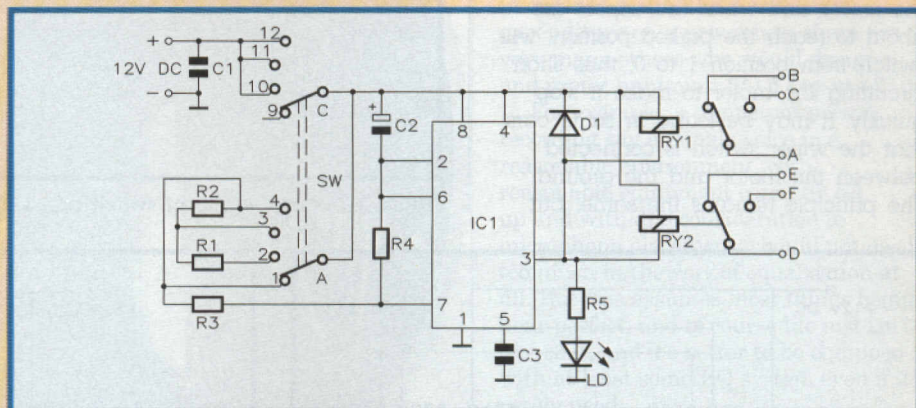

Figure 2. Circuit diagram of the Intermittent Wiper Controller.
Referring to Figure 2, this shows the selection of three delay speeds as well as 'ON' & 'OFF', by the rotary switch (SW), which is used in this design as a 2 pole 4 way type, although the two poles are connected together on the PCB.
Refer to the circuit diagram in Figure 2 and the Parts List.